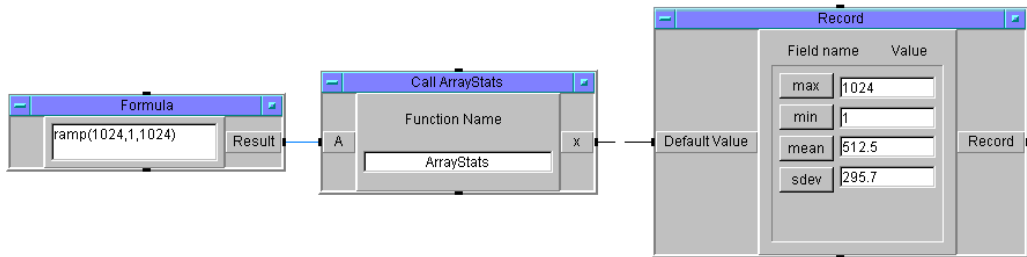

Figure 214 After Editing ArrayStats Output to a Record
- 8 Run the program. It should look like Figure 214.